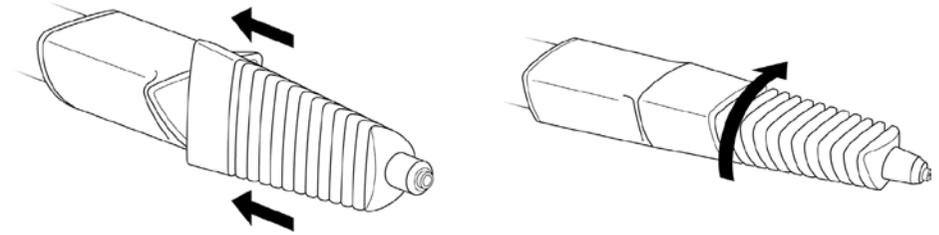

FIGURE 5
3. Align Jet Nozzle with male end of Extension Hose (FIGURE 5). Guide key on Jet Nozzle should line up with key slot on base of Extension Hose nozzle.
4. Slide Jet Nozzle onto Extension Hose, being sure to push it on as far as it will go. Rotate Jet Nozzle clockwise, turning it until you feel it “lock” into place and it will move no further (FIGURE 5).